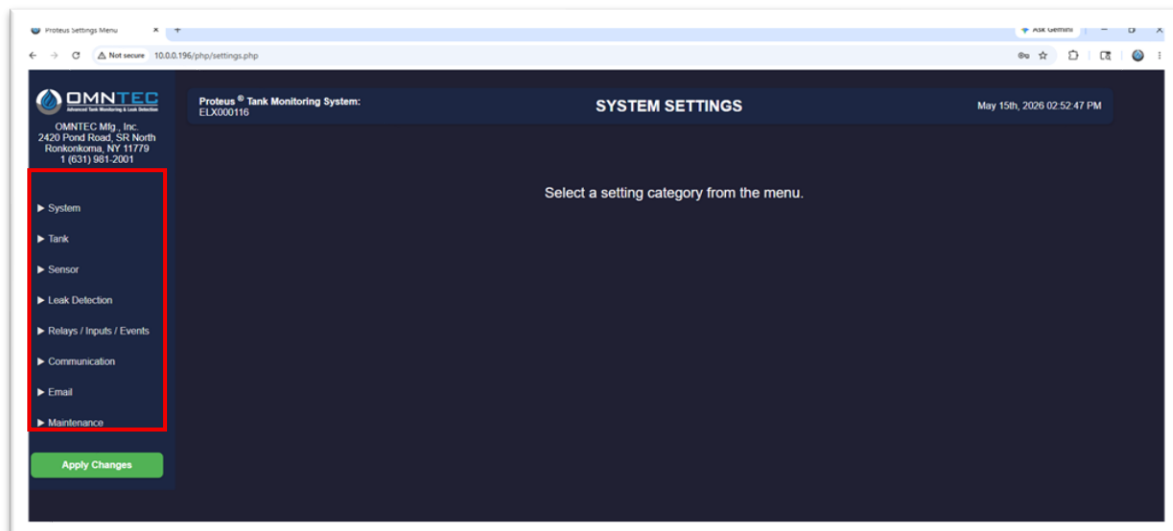

Figure 8.2
- Press the login button (or **ENTER** on your keyboard) to access the **SYSTEM SETTINGS** page. (See Figure 8.2).
(Figure 8.2; red box).